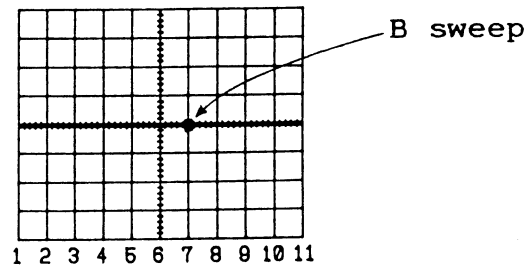

Figure 3-2
(2) x10 MAG, x1 Centering
- Position the B sweep(intensified portion on the A sweep) to the 7th vertical graticule line using DLY TIME MULT dial as shown in Figure 3-2.